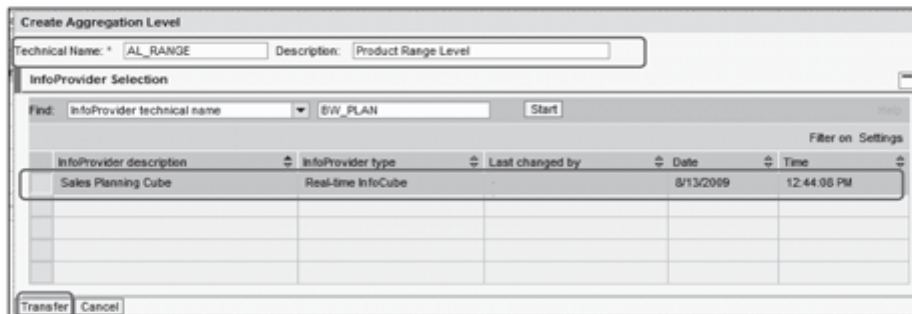

Figure 12.31 InfoProvider Selection
2. Enter the TECHNICAL NAME and DESCRIPTION of the aggregation level, as shown in ❶ of Figure 12.31. Select the InfoProvider over which you want to build the aggregation level (❷), and click on TRANSFER (❸).